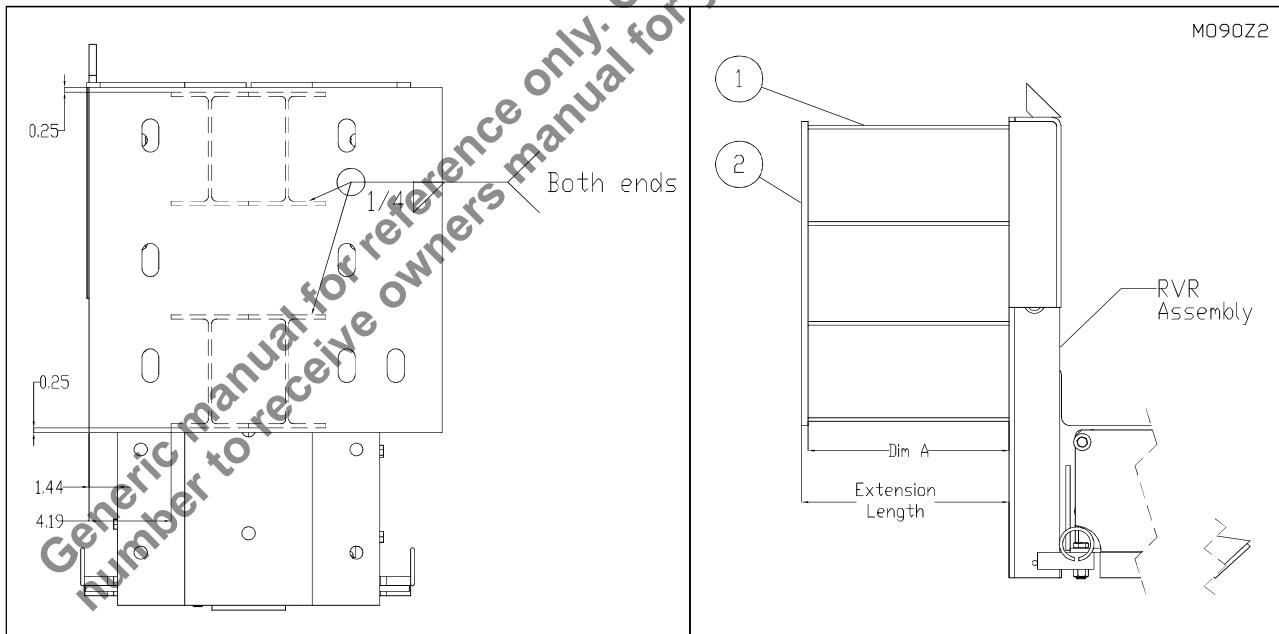

Figure 6: Extension Plate Installation
The roller track weldment can be installed onto the dock face by either welding it to a cast-in plate or by bolting the roller track assembly to the concrete face using 15 concrete anchor bolts. In addition, roller track assembly can be welded to an extension plate. (See "Figure 6: Extension Plate Installation" on page 7)
6. Install all anchors and torque to manufacturer's instructions. weld the I-beams to the backplate (See "Figure 6: Extension Plate Installation" on page 7) and (See "Welding Reference Information" on page 17).
9. Weld the roller track weldment to the I - beam. (See "Figure 6: Extension Plate Installation" on page 7)